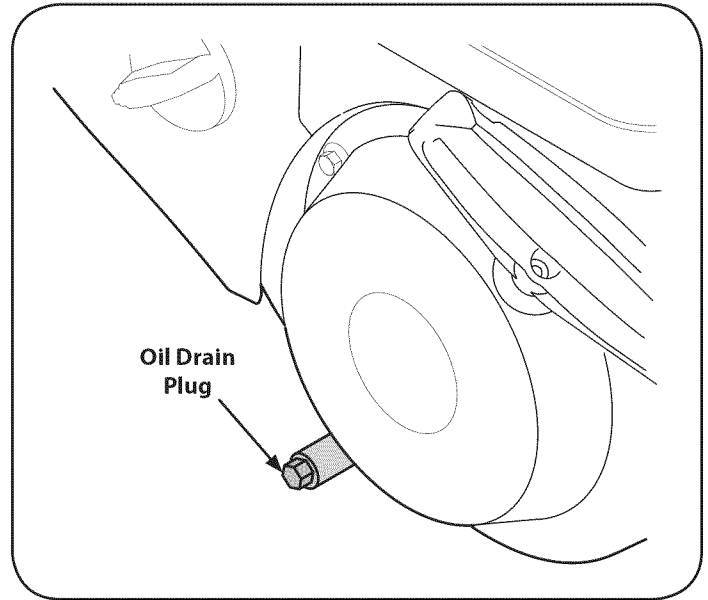

Figure 19
3. Remove oil drain plug. See Figure 19 on next page.